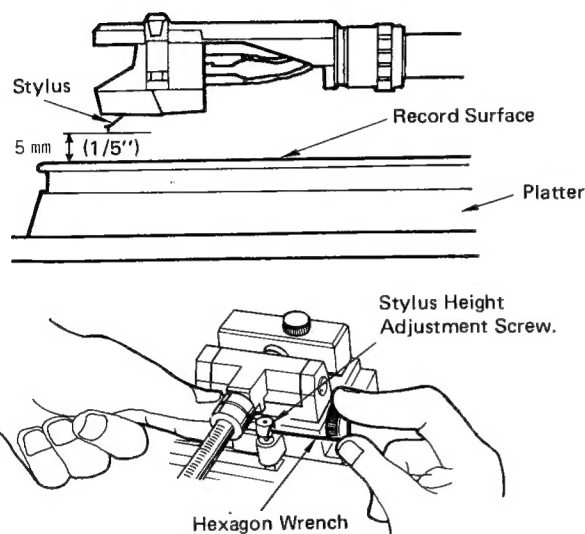

Fig. 8
- 2) The height obtained at this point will be the stylus height. The optimum height should be 5 mm (1/5") if it is other than this the Stylus Height Adjustment must be made using a hexagon wrench.\* See Fig. 8.